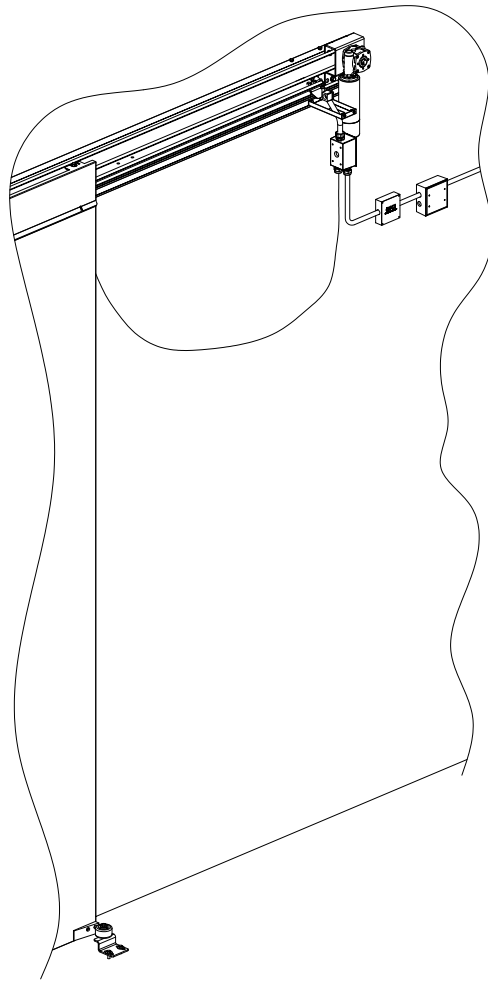

Figure 32: Heat Cable Wiring, Drive Side Panel
- 2 Remove trolley cover plate by removing 2 screws attaching it to trolley on both ends (Figure 32).